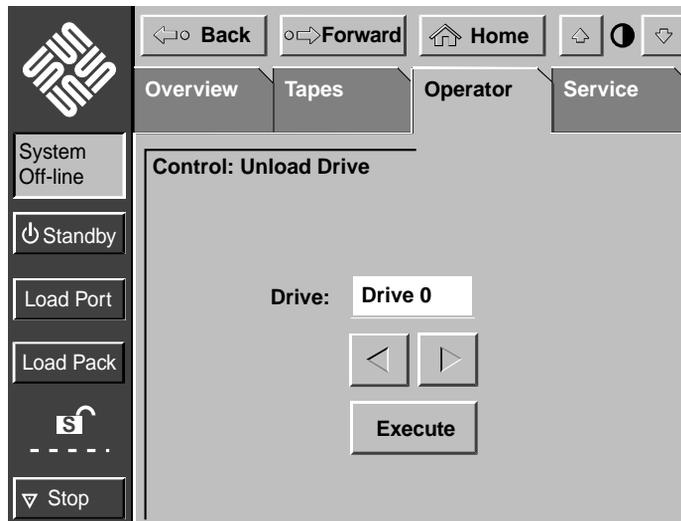

FIGURE 4-8 Unload Drives Screen
1. In the Operator screen, press the **Unload Drive** button. A screen appears with a list of drives (FIGURE 4-8).